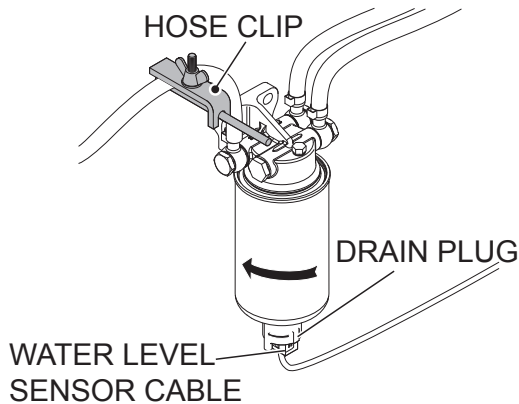

Figure 27. Fuel Prefilter
1. Block the fuel feed line with a hose clip (Figure 27) between the fuel tank and fuel prefilter.